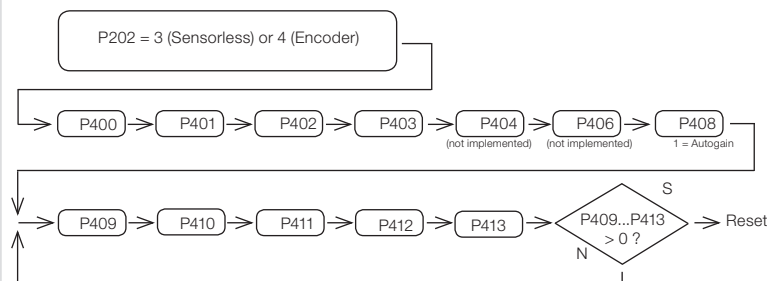

Figure 11.22: Guided start-up routine sequence
- When P202 is programmed for sensorless vector (P202 = 3) or vector with encoder (P202 = 4), the inverter enters the guided start-up routine (refer to the Figure 11.22 on page 11-36).